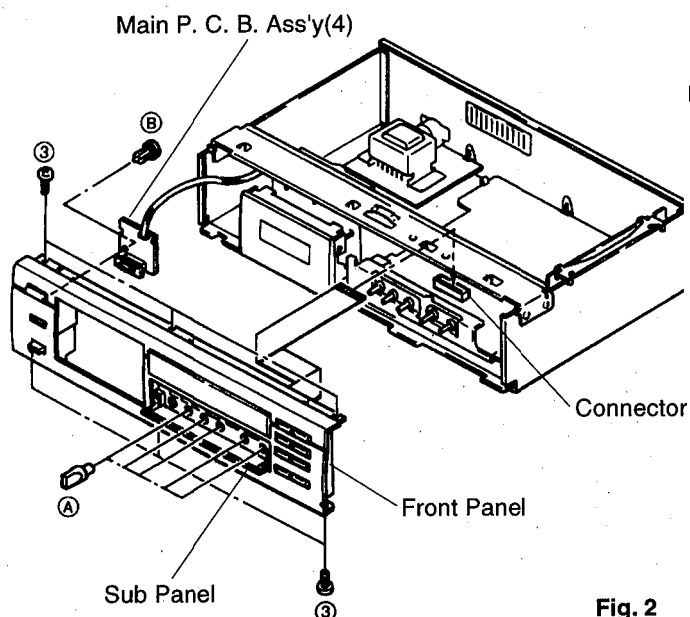

Fig. 2
a. Remove 6 screws (③) in Fig. 2.
b. Remove 5 knobs (A) in Fig. 2 after opening the Sub Panel.
c. Remove 1 plastic rivet (B) in Fig. 2 and then remove the Main P.C.B. Ass'y(4).